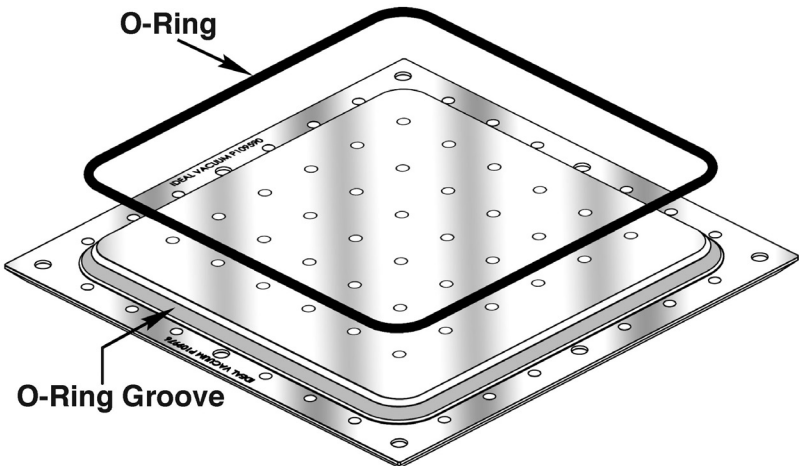

Figure 4 - Back of a Cube plate
- Figure 4 - Back of a Cube plate7